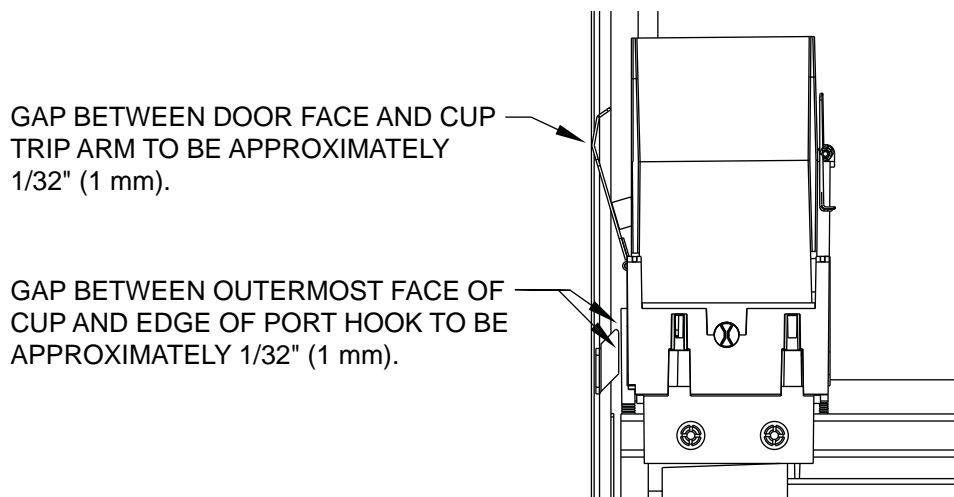

Figure 4.2
10. Align the outermost face of the cup with the outer edge of the port hook, with 1 mm gap. (See Figure 4.2.)